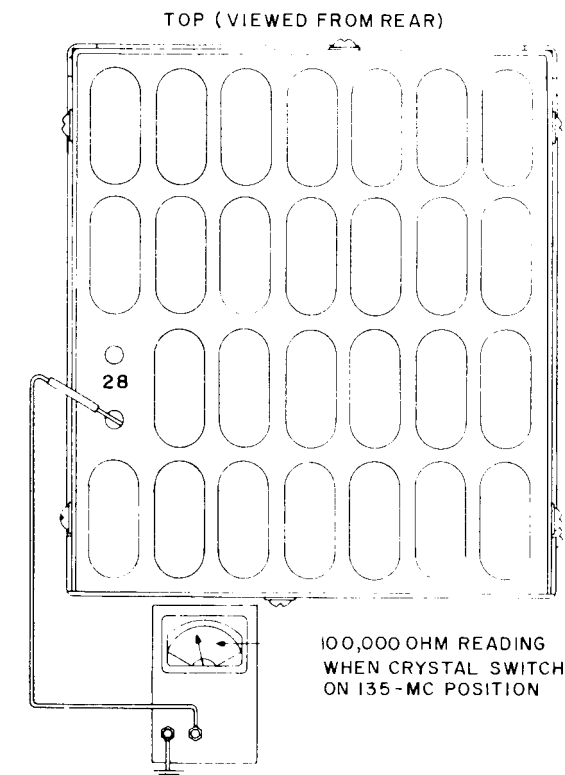

Figure 6-8. Test Setup, Coarse Frequency Oscillator Switch Adjustment
- b. Pull out 9625.000 kc crystal, Y1528 and attach an ohmmeter between the lower socket and ground as shown in figure 6-8.